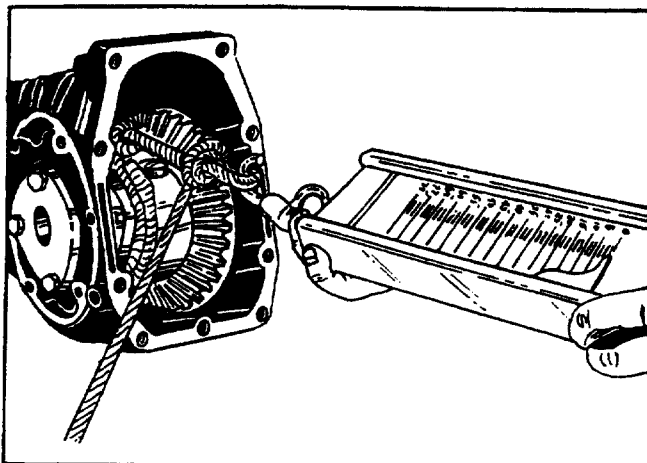

FIGURE 4.
- a. Tapered bearing preload, 2 to 12 lbs. on pull scale. (Figure 4)
- 2.204 Unbolt bearing retainer and lift off, remove retaining ring and shim pack. Clean shims, tape and save for reassembly, to assure an unchanged pinion-ring gear contact. If tooth contact is either high or low, see test 1.227c; a correction can be made by changing the shims. See figure 4.